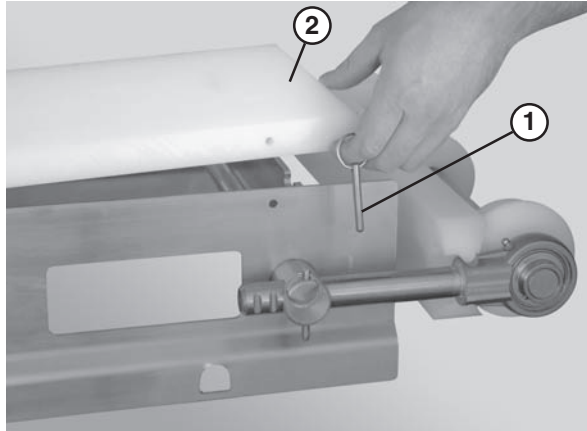

Figure 45
1. Remove the guides, if applicable, by removing the pull pins (Figure 45, item 1) that connect the guide (Figure 45, item 2) to the frame.
1. Remove the guides, if applicable, by removing the pull pins (**Figure 45, item 1**) that connect the guide (**Figure 45, item 2**) to the frame.